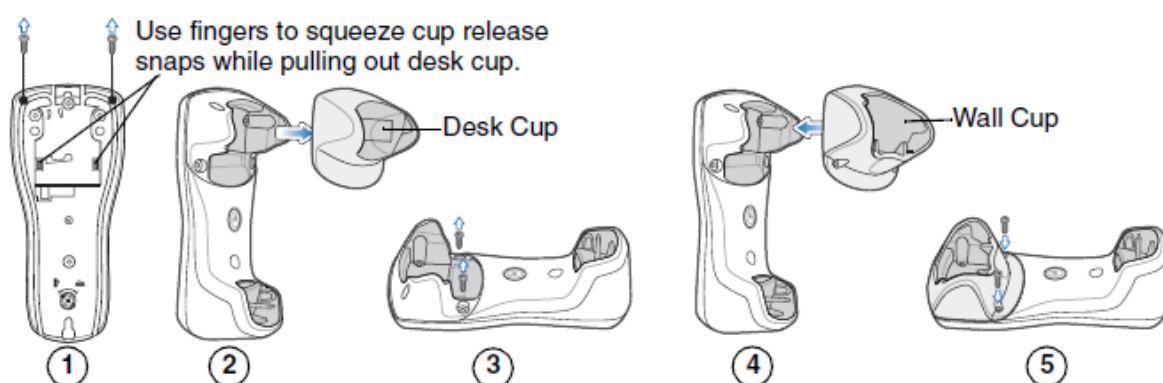

Figure 5: Change to a vertical cradle
2. Use a cross-head screwdriver to remove the screws on the rear of the cradle (see Figure 5), and follow the steps in Figure 5 to install the wall cup.